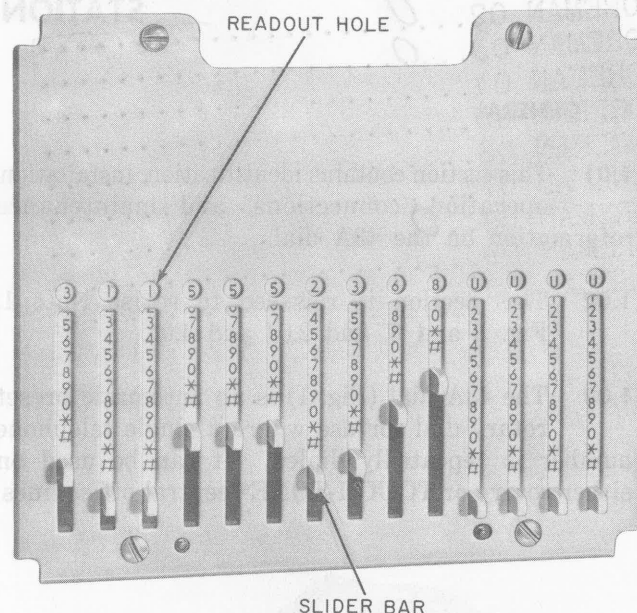

Fig. 2—43A Dial Coding Board
- Slide switch programming with readout of telephone number (Fig. 2). Up to a maximum of 14 digits may be programmed.
**3.08** Set coding board slide switches (Fig. 2) as follows: